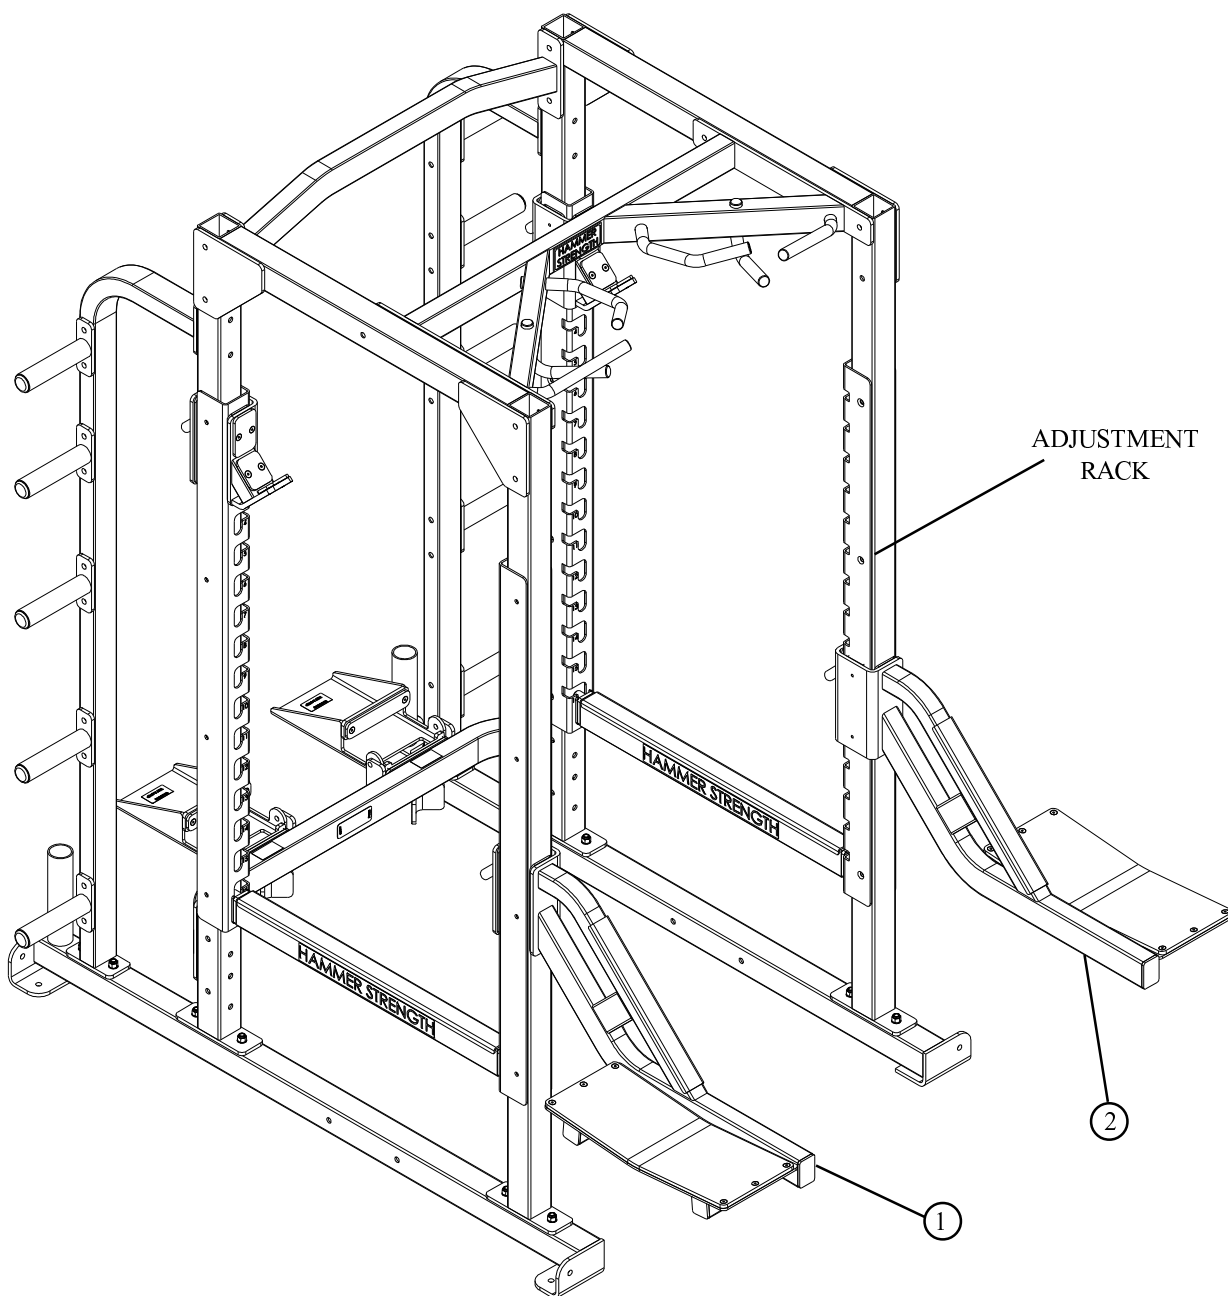

FIGURE 1
- Insert the LEFT TECH TRAY (1) and the RIGHT TECH TRAY (2) into the desired slots of the ADJUSTMENT RACKS, and allow it to drop down to lock in place. See FIGURE 1.